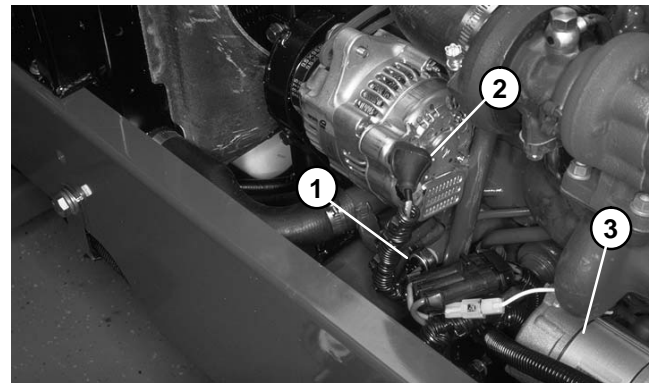
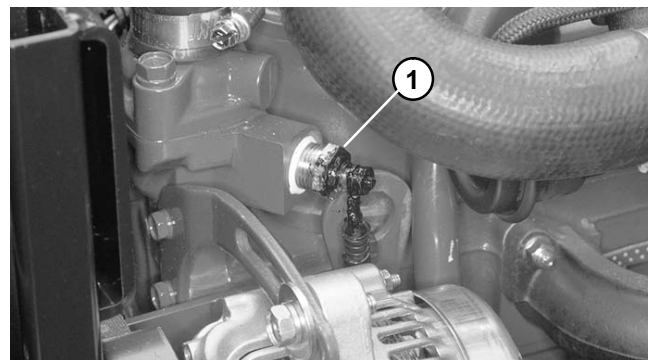

Figure 26
Figure 27
- A. The oil low pressure switch, starter, and alternator (Fig 26). The temperature sender (Fig. 27).
- C. The temperature sender (Fig. 27). The oil low pressure switch, starter, and alternator (Fig. 26).